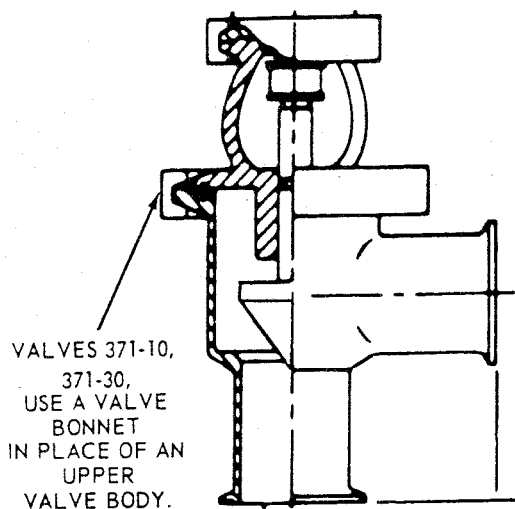

Figure 4. Valve Bonnet
5. Remove actuator clamp and upper body. See Figure 4 for 371-10 and 371-30 valves.
4. Remove actuator clamp and upper body. See Figure 4 for 361-10 and 361-30 valves.